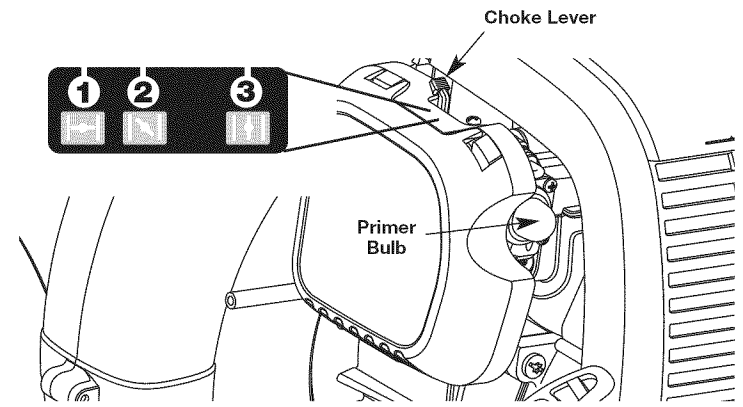

Fig. 14
3. Fully press and release the primer bulb **10** times, slowly. Some amount of fuel should be visible in the primer bulb (Fig. 14). If fuel cannot be seen in the bulb, press and release the bulb until fuel is visible.
4. Move the choke lever to **Position 1** (Fig. 14).
6. Move the choke lever to **Position 2** (Fig. 14).
9. **Continue to squeeze the trigger.** Move the choke lever to **Position 3** (Fig. 14) and continue warming the engine for an additional 60 seconds. During this time the unit may be used.